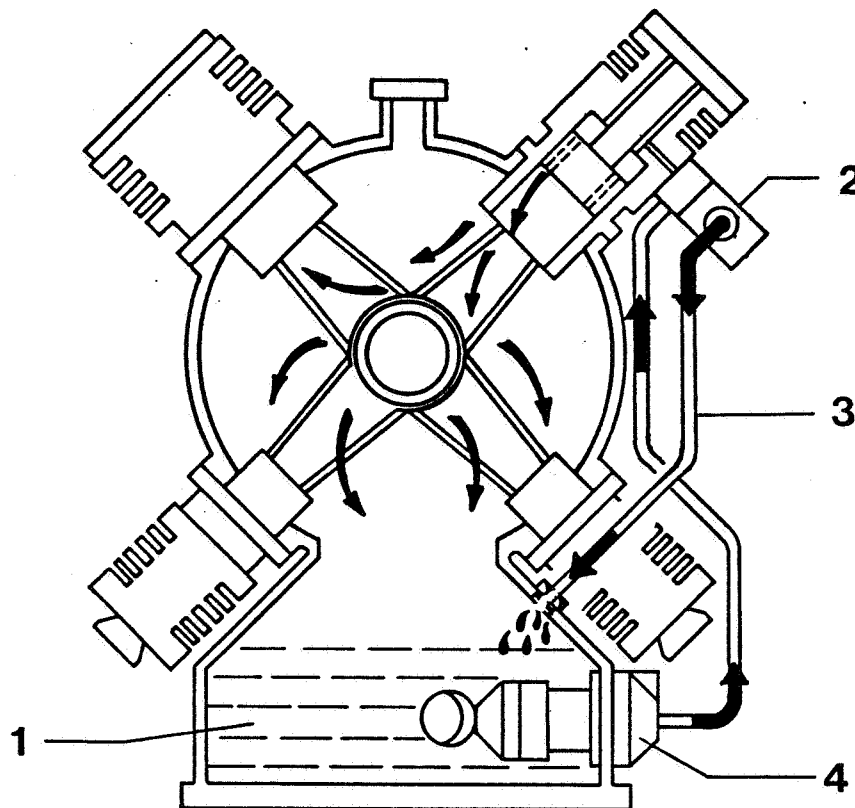

Fig. 2.1 Lube oil circuit
The compressor is provided with force-feed lubrication for the fourth stage (Fig. 2.1). A Bosch injection pump (4) is driven by a camshaft via a V- belt. It pumps oil into the pressure regulator (2) at the 4th stage through an oilfilter. The oil pressure regulator (2) doses the oil quantity and is adjusted to the respective oil pressure. The oil not needed flows back to the crankcase through feedback tube (3) via 4th stage cylinder.